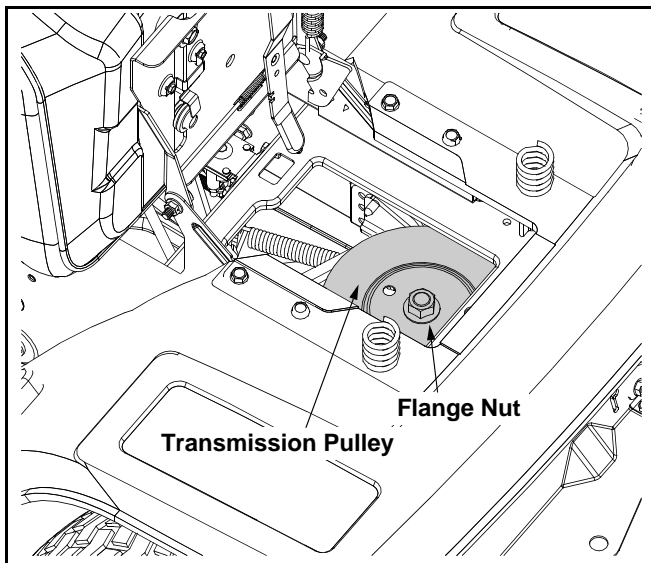

Figure 22
- Locate the transmission pulley through the battery tray opening. See Figure 22.